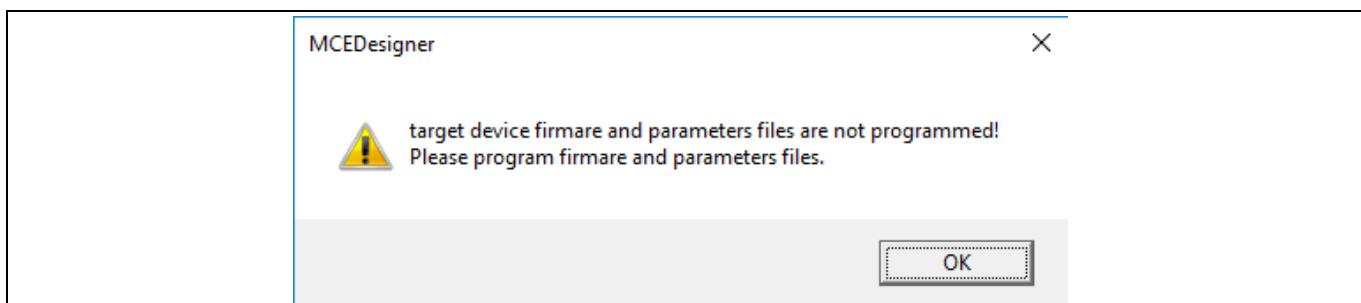

Figure 7 MCEDesigner warning message
8. In case of a blank IC: If the firmware has been erased from the IMC101T, a warning message will pop up (see Figure 7) “Target device firmware and parameters files are not programmed! Please program firmware and parameters file.” See step 9 on how to obtain/program firmware and parameters.